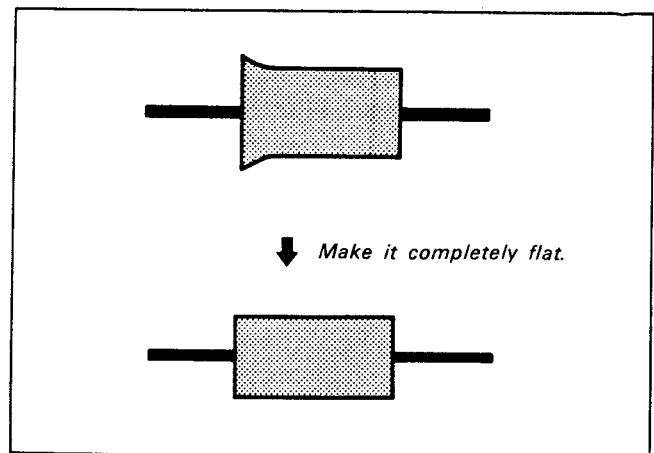

Fig. 4-10
- 6) Flatten the waveform with No.3 guide. (Fig. 4-10)